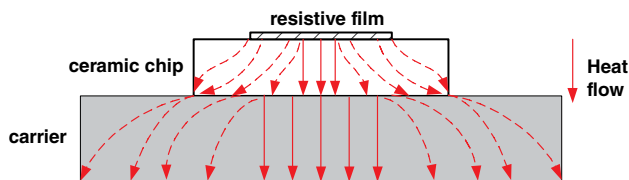
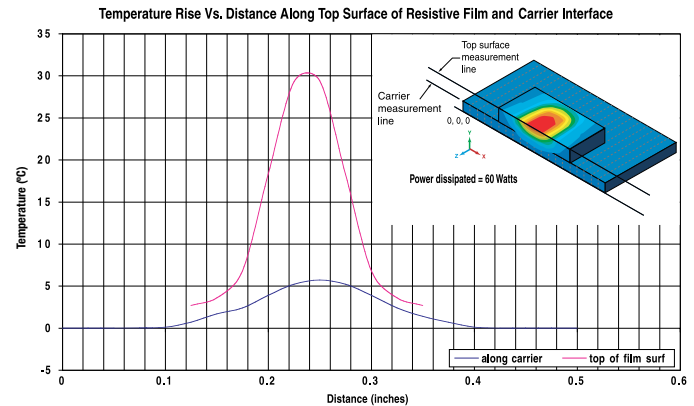
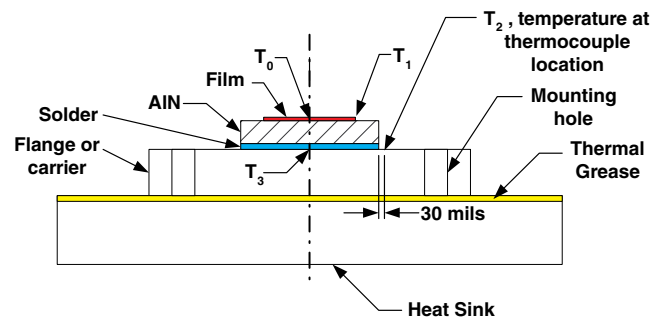

Figure 10: Heat flow around a mounted chip resistor
Figure 11: Computer simulation of isotherms around mounted chip resistor
Figure 12: Temperatures at a number of points on and around a ground plane-mounted resistive chip
Before we can do a thermal design, we must first decide on exactly what we shall mean by “power rating” for a chip device. **Figure 10** illustrates the heat flow around a mounted chip resistor. The resistive film, assumed to have constant power dissipation over its surface, behaves as an isoflux boundary, i.e., a source of uniform heat flux, rather than the isothermal boundary used in the derivation of equation (2). Were the film to completely cover the chip, the isoflux case would approach the isothermal case, but absent that condition the heat spreads out as shown.
The thermal resistance between two points is defined as the temperature difference between those points divided by the heat flow (typical units are degrees Centigrade/Watt). It is analogous to electrical resistance, with temperature corresponding to voltage and heat flux to current. **Figure 10** indicates that there is vertical as well as lateral heat flow in both the ceramic chip and the carrier it is mounted on. This implies that the system must be represented as a lattice network of thermal resistances rather than a single thermal resistance.
(The latter can characterize only the kind of one-dimensional heat flow assumed for equation (2).) **Stated alternately, the temperature will vary laterally along the film and, also, laterally along the mounting surface.** This is illustrated in **Figure 11**, which was made using a “Finite Element Method” (FEM) computer simulation. In actuality, a three-dimensional latticework of resistors is needed to describe a mounted resistive chip, and there is temperature variation along all three dimensions.
The above considerations bear importantly on how a chip is designed and characterized for power handling and exactly how confirming measurements are made. **Figure 12** indicates temperatures at a number of points on and around a mounted chip: (a)  $T_0$ , at the film centroid; (b)  $T_1$ , at the film edge or corner; (c)  $T_3$ , on the mounting surface directly under the film centroid; and (d)  $T_2$ , on the mounting surface 30 mils away from the chip edge. We can make the following qualitative observations:
An ideal heat sink has infinite thermal conductivity and, because of this, the infinite thermal conductivity,  $T_2$  would equal  $T_3$  in Fig. 12. From Fig. 10 and Fig. 11, this clearly is not the case for any real mounting surface; in fact,  $T_3 > T_2$ .
One strategy for defining power rating might be to measure  $T_3$  directly – or deduce it from a measurement of  $T_2$  and a computer FEM model – and then specify performance as if an ideal heat sink were held everywhere at that temperature. By slicing a mounted resistor in half along its longitudinal axis – in **Figure 12**, perpendicular to the plane of the paper, down the centerline – we were able to take advantage of the lateral heat-flow symmetry to measure  $T_2$  and  $T_3$  for chips of several sizes and input powers. (The slice plane is an adiabatic boundary, i.e., no heat flows across it.) Results of such measurements are presented in **Table 2**. All chips were 40 mils thick and all measurements were made on a silver-plated high-conductivity copper mounting surface (see the table for more information).
- Next, since our carrier does not have infinite thermal conductivity, we must specify the exact location – **T2 in Figure 12 – at which we hold the ambient temperature constant. Typically, we choose this as 30 mils from the chip edge along its lateral centerline** – an arbitrary, convenient spot at which to solder a small thermocouple.
Let us assume a perfectly conducting mounting surface in **Figure 10**, i.e., a surface along which there can be no lateral temperature variation. Then to calculate the total thermal resistance from the film to the mounting surface, one would compute the one-dimensional resistance of the chip with the film occupying its entire surface and then add the constriction resistance to account for the lateral constriction of the heatflow. (Note, from the top down the heat spreads and so the term “spreading resistance” is frequently used, but from the bottom up the heat flow constricts.) There are several expressions available in the literature for the constriction resistance of heat sources mounted on rectangular channels (“flux tubes”) with adiabatic walls, i.e., heat-producing films on chips that have no appreciable heat conduction perpendicular to their sidewalls. One formula that yields constriction resistance based on an average film temperature is5.